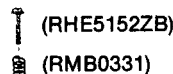

Fig. 2
- Please replace both azimuth adjustment screws (RHE5152ZB) and springs (RMB0331) used for to new ones simultaneously when readjusting the head azimuth. (Shown in Fig. 2.) Even if you wish to readjust the head azimuth without replacing the screws and springs, a fine adjustment can not be done because of the screw-locking bond adhered to the azimuth screw and spring.